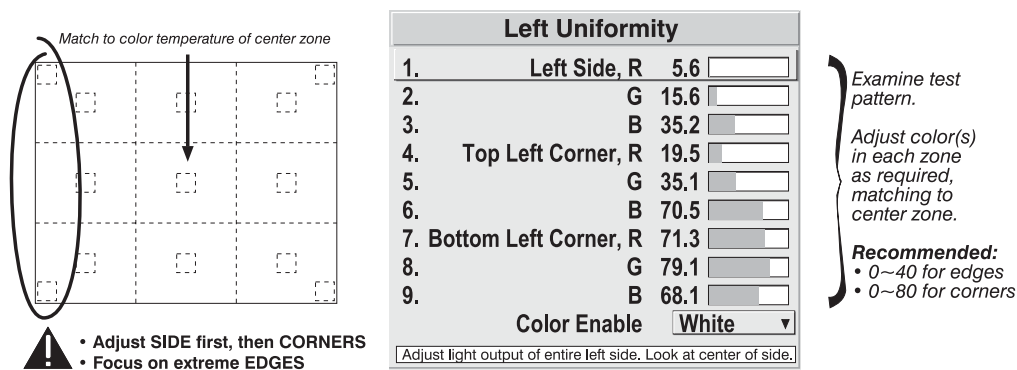

Figure 3.30. Match Zones to Center Color Temperature
- 2b) Return to the *Brightness Uniformity* menu. Beginning with the screen that exhibits the most obvious color shift(s), for each edge that exhibits a noticeably different color temperature from the center, select the corresponding *Uniformity* adjustment menu—*Left, Right, Top* or *Bottom*. For example, if any part of the left side is too blue, too red or too green, go to the *Left Uniformity* menu and adjust the colors (i.e., change their light output) until all portions of the left side closely match the center color temperature. Adjust an edge first (focusing on its center), then adjust its corners. See Figure 3.30.